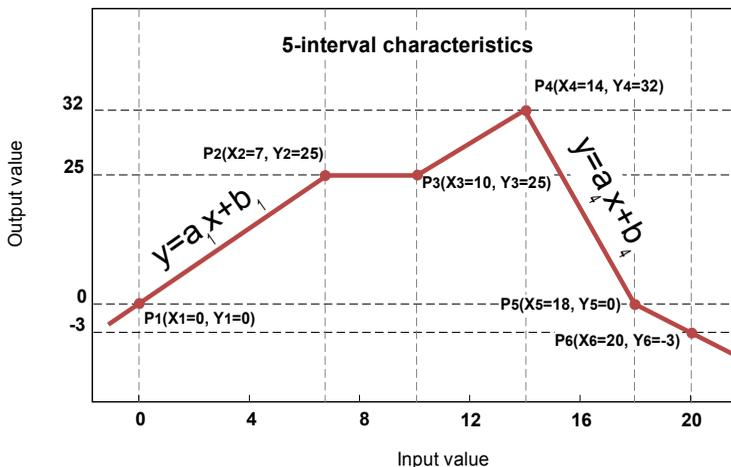

Fig. 7.32. Example of user characteristic
d) user characteristics - is defined as set of X-Y points. Number of the points is variable and may be set from 2 to 20 points which make linear segments (see Fig. 7.32). For 2 points the user characteristic behaves like a linear process (see subsection **b**). For more than 2 defined points the user characteristic is a composite of the line characteristics therefore for input value '**x**' the user obtain an output value '**y**' which is described by the relationship:
, where '**a**' and '**b**' are coefficients of a segment contained between two points (see Fig. 7.32), and **n = 1, 2 ..** is the number of the segment.